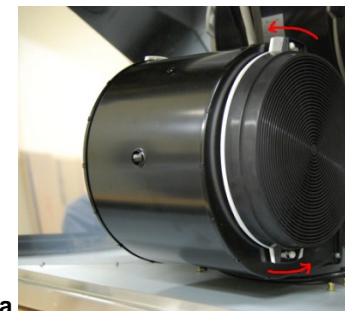

Fig. 3b
- b. Rotate the charcoal filters in a counter-clockwise motion until you hear a click. **(Fig. 3b)**
- A set of (4) GU10 5W LED light fixtures will be included.